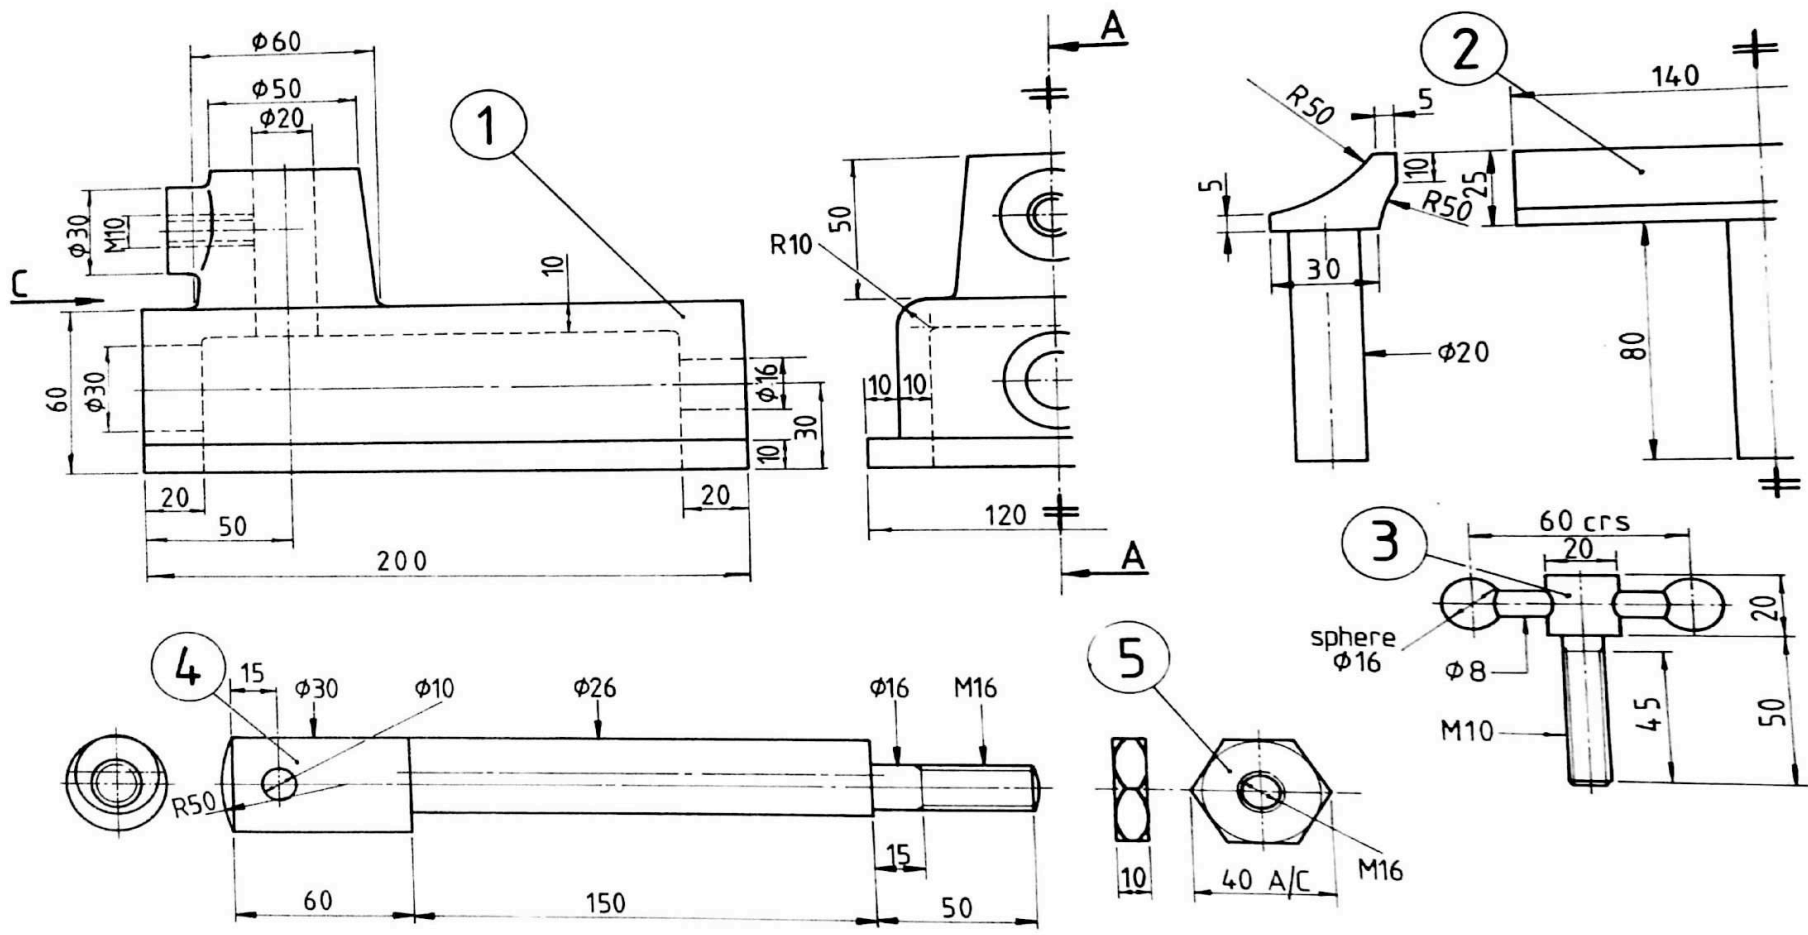

FIG. 1 FÍOR 1
1. Details of an ECCENTRIC TOOL REST for woodturning are given in Fig. 1 with a parts list tabulated below.